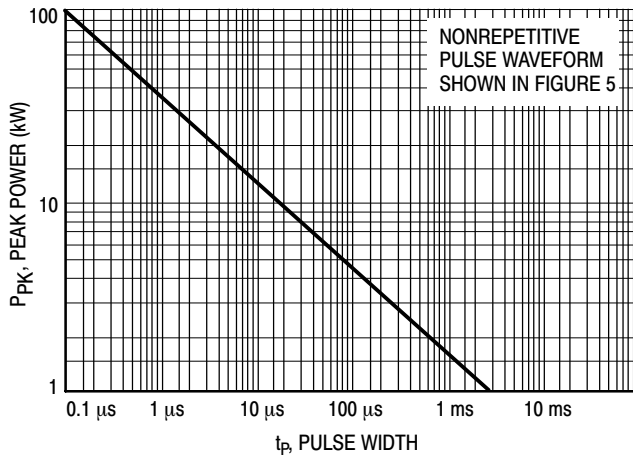
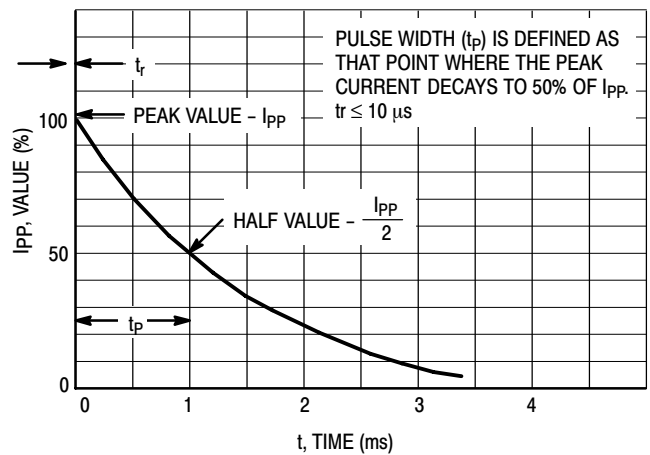
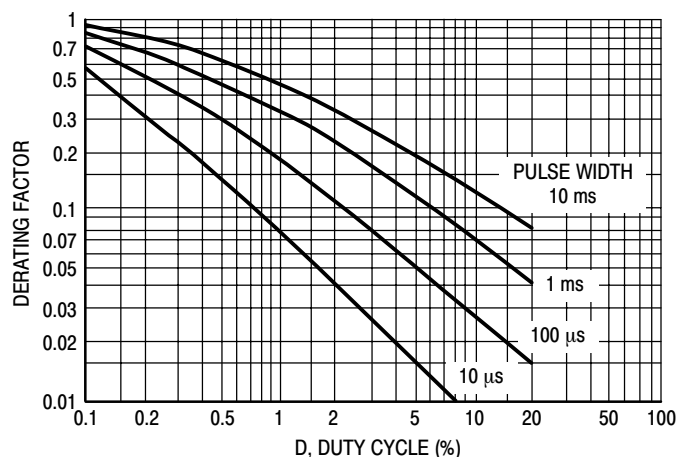

Figure 1. Pulse Rating Curve
Figure 5. Pulse Waveform
Figure 7. Typical Derating Factor for Duty Cycle
1. Nonrepetitive current pulse per Figure 5 and derated above  $T_A = 25^\circ\text{C}$  per Figure 2.
7. Surge current waveform per Figure 5 and derate per Figures 1 and 2.
The data of Figure 1 applies for non-repetitive conditions and at a lead temperature of  $25^\circ\text{C}$ . If the duty cycle increases, the peak power must be reduced as indicated by the curves of Figure 7. Average power must be derated as the lead or
At first glance the derating curves of Figure 7 appear to be in error as the 10 ms pulse has a higher derating factor than
the 10  $\mu$ s pulse. However, when the derating factor for a given pulse of Figure 7 is multiplied by the peak power value of Figure 1 for the same pulse, the results follow the expected trend.